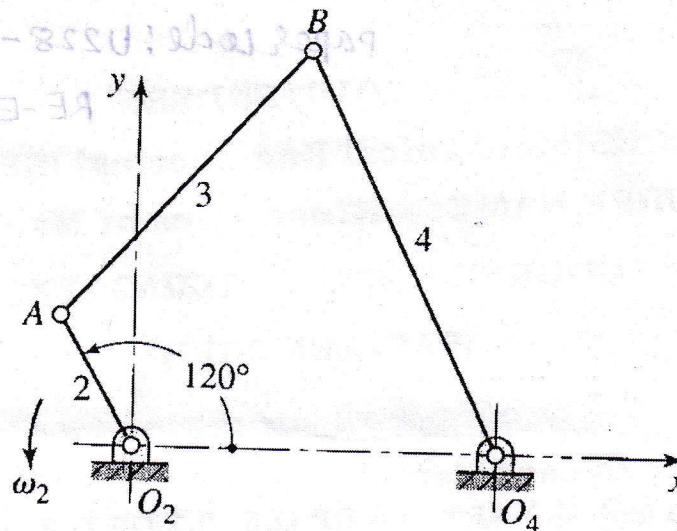

Figure 2
Q.3) a) The mechanism shown in the figure 2 is driven by link 2 at 45 rad/sec in counter clockwise direction. Find the angular [6]